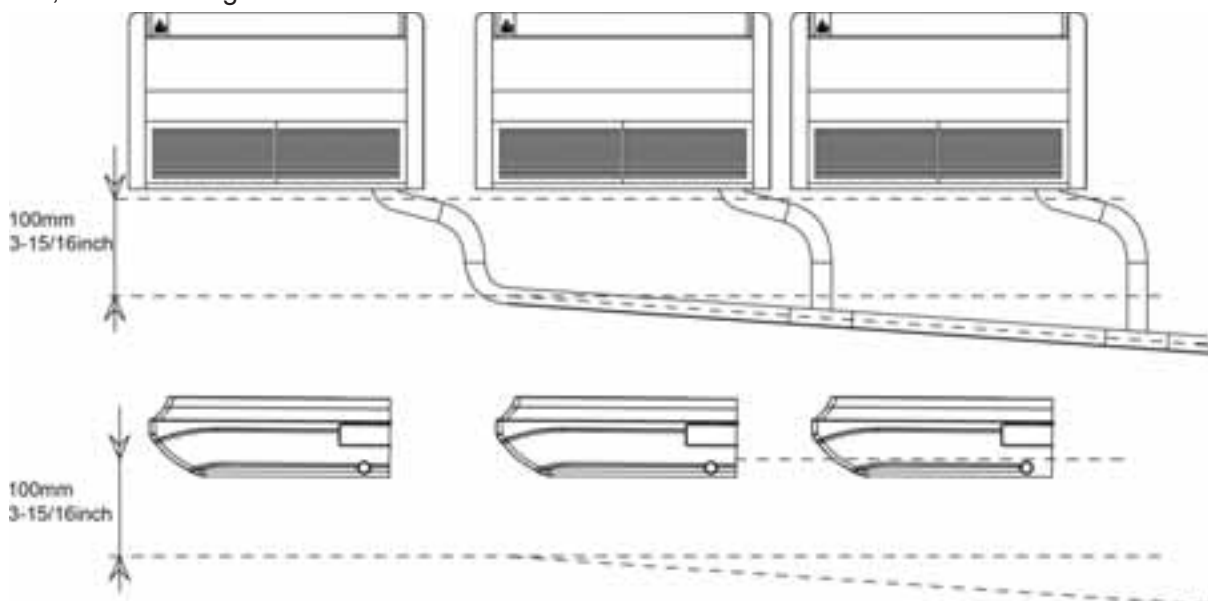

Fig.4.3.2.1
- (1) The diameter of the drainage pipe should be the same or larger than the connection pipes (PVC pipe, outside diameter 17mm (11/16inch), thickness \geq 1.75mm (1/16inch)).
- (2) Keep drainage pipe as short as possible and sloping downwards at a gradient of at least 1% to prevent forming air bubbles.
- (3) Insert the drainage hose into drain socket, tighten the metal clamp securely.
- (4) Warp the sealing pad over drain hose and metal clamp for heat insulation.
- (5) Make sure to perform insulation work for all drainage piping in order to prevent any possible condensation.
- (6) Apply the suitable diameter for converging drainage pipe according to the operating capacity of the unit, as show in Fig. 4.3.2.1.